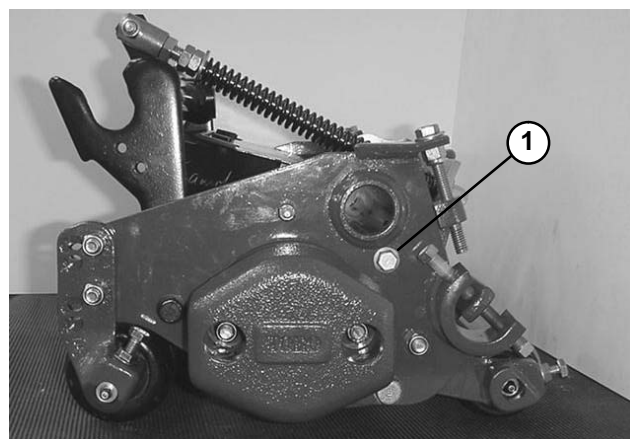

Figure 21
1. To open rear shield, loosen flange head capscrew securing shield to right side plate, rotate shield to open position and tighten screw (Fig. 21).